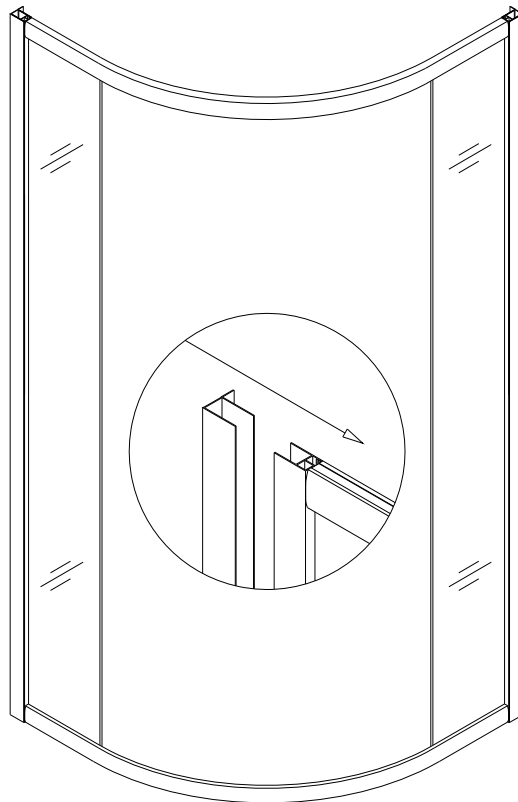

Fig 4
4. Push the **Wall profile (01)** all the way over the **Glass profile (02)**. Be sure to keep a tong with predrilled holes inside of shower. See Fig 4 for details.